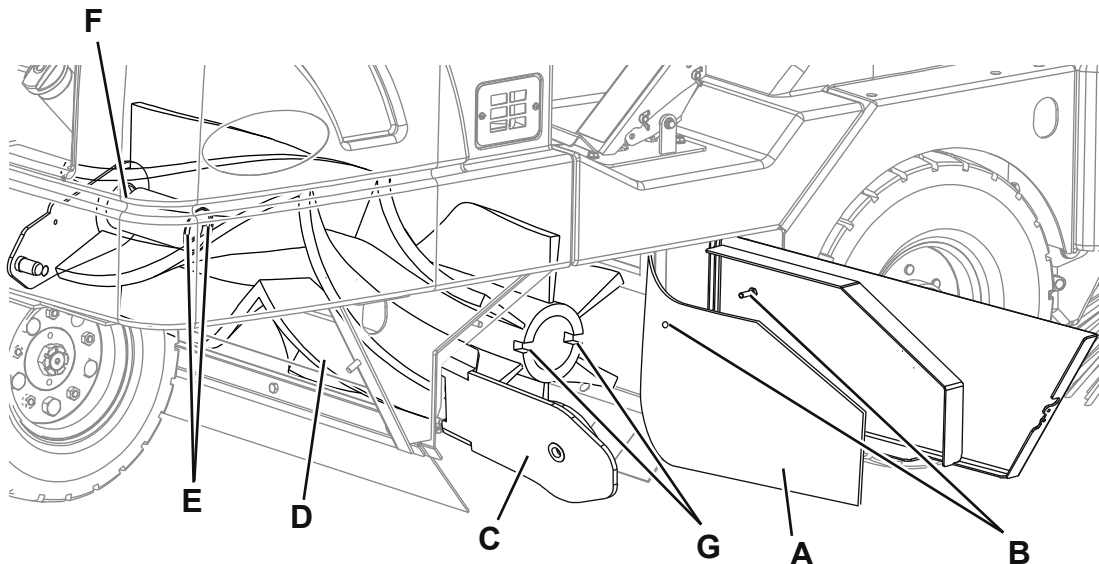

Figure 2
3. Turn the ignition key (64) and start the machine.
4. Lower the main broom with the lever (53).
5. Turn the ignition key (64) to "O" to stop the machine.
6. Open the right panel (18).
7. Move aside the right side skirt (A, Fig. 2) and fasten it with the pin (B).
8. Pivot the idler arm assembly (C) out of the main broom core (D).